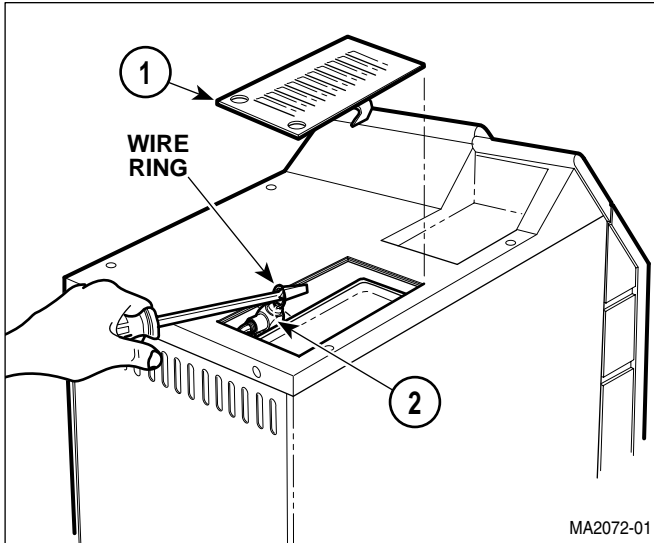

Figure 4-31. Pressure Relief Valve Check
- (1) Remove the top inspection cover (1, Figure 4-31).